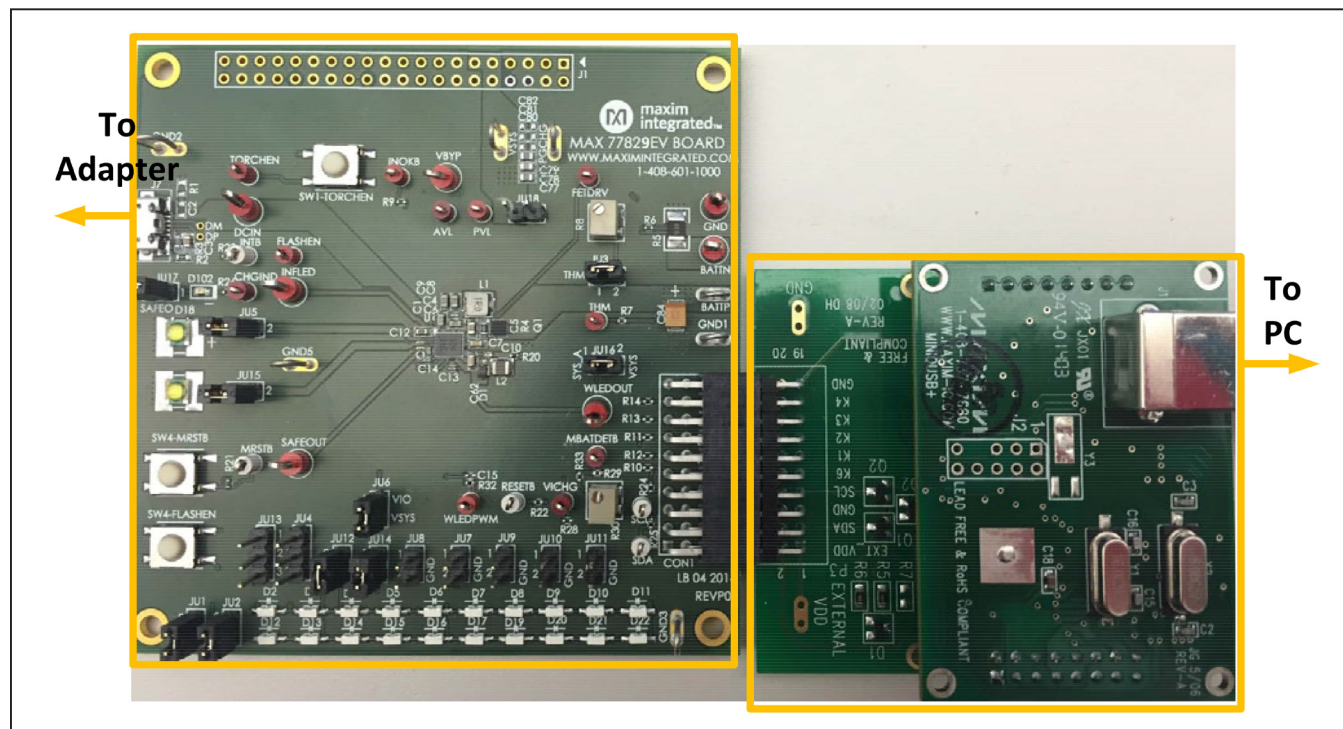

Figure 2. MAX77829 Evaluation Kit and MINIUSB Connection
- 3) For the connection among PC, MINIUSB, and the MAX77829 EV kit, see Figure 2. MINIUSB is connected to the MAX77829 EV Kit through the 20-pin connector.